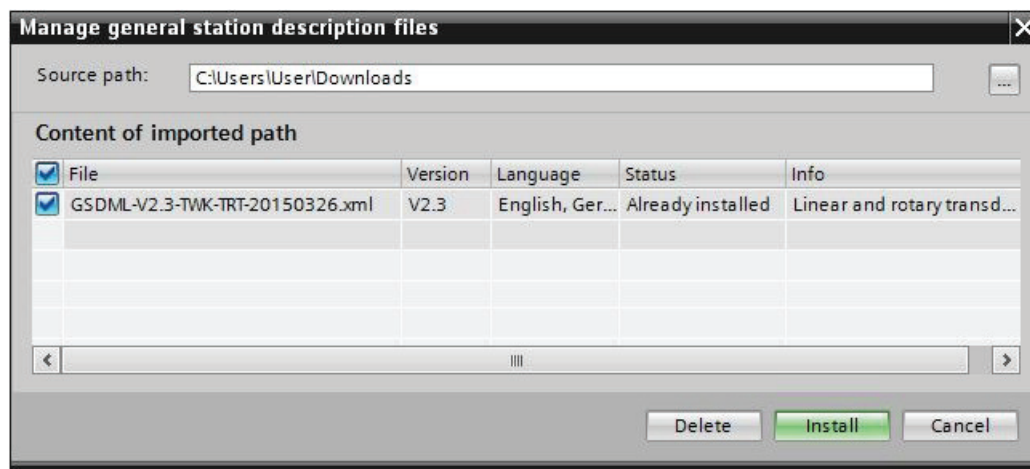

Fig.:18
- Set the source path to your GSD file, check the GSD file and click on "Install" (see Figure 18).